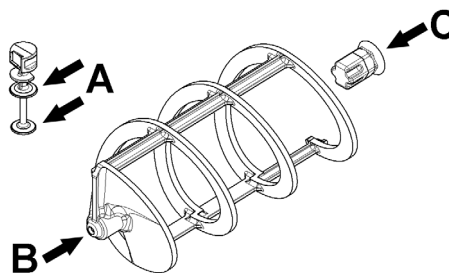

figure 9
- 2 Lubricate the tap piston, the hexagonal joint and the mixer at the points indicated in figure 9, using only the grease that came with the machine or other grease for use with food.